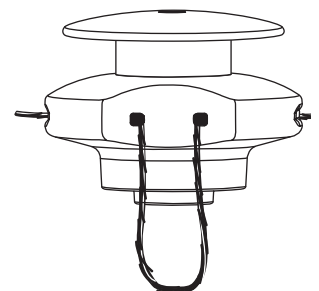

Fig. 21
2. Push the ends through until they stick out of the sides of the head (Fig. 21).